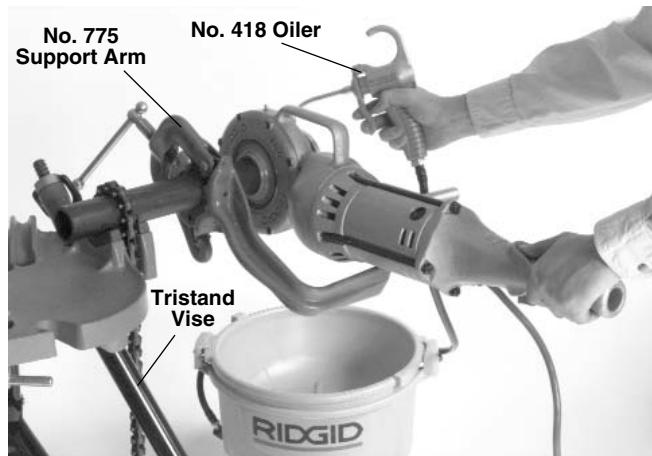

Figure 4 – Threading 2" Pipe With Power Drive Positioned On Left Side Of Vise
- Be sure the 418 Oiler is properly filled with RIDGID Thread Cutting Oil. Position the oiler in front of the vise (*Figure 4*).
- Position No. 775 Support Arm on pipe so end of tang is in line with end of the pipe (*Figures 4 & 5*). Make sure jaws squarely contact pipe and tighten handle firmly to prevent the slipping of the jaws.
WARNING To avoid serious injury, make sure Power Drive is correctly positioned on support arm (Figures 4, 5 & 6). For right hand threads, Die Head will rotate clockwise (looking at the face of the Die Head). Forces developed by the threading torque will be in the opposite or counter-clockwise direction.